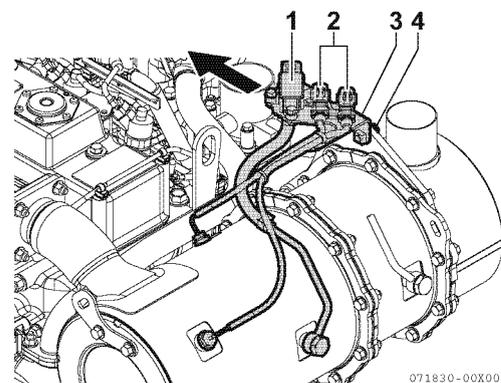

Figure 13-8
- Loosen the sensor bracket (3, **Figure 13-8**) M8 flange bolts (2 pcs.) (4, **Figure 13-8**) that mount the exhaust differential pressure sensor (1, **Figure 13-8**) and the exhaust temperature sensor coupler (2, **Figure 13-8**), and remove.